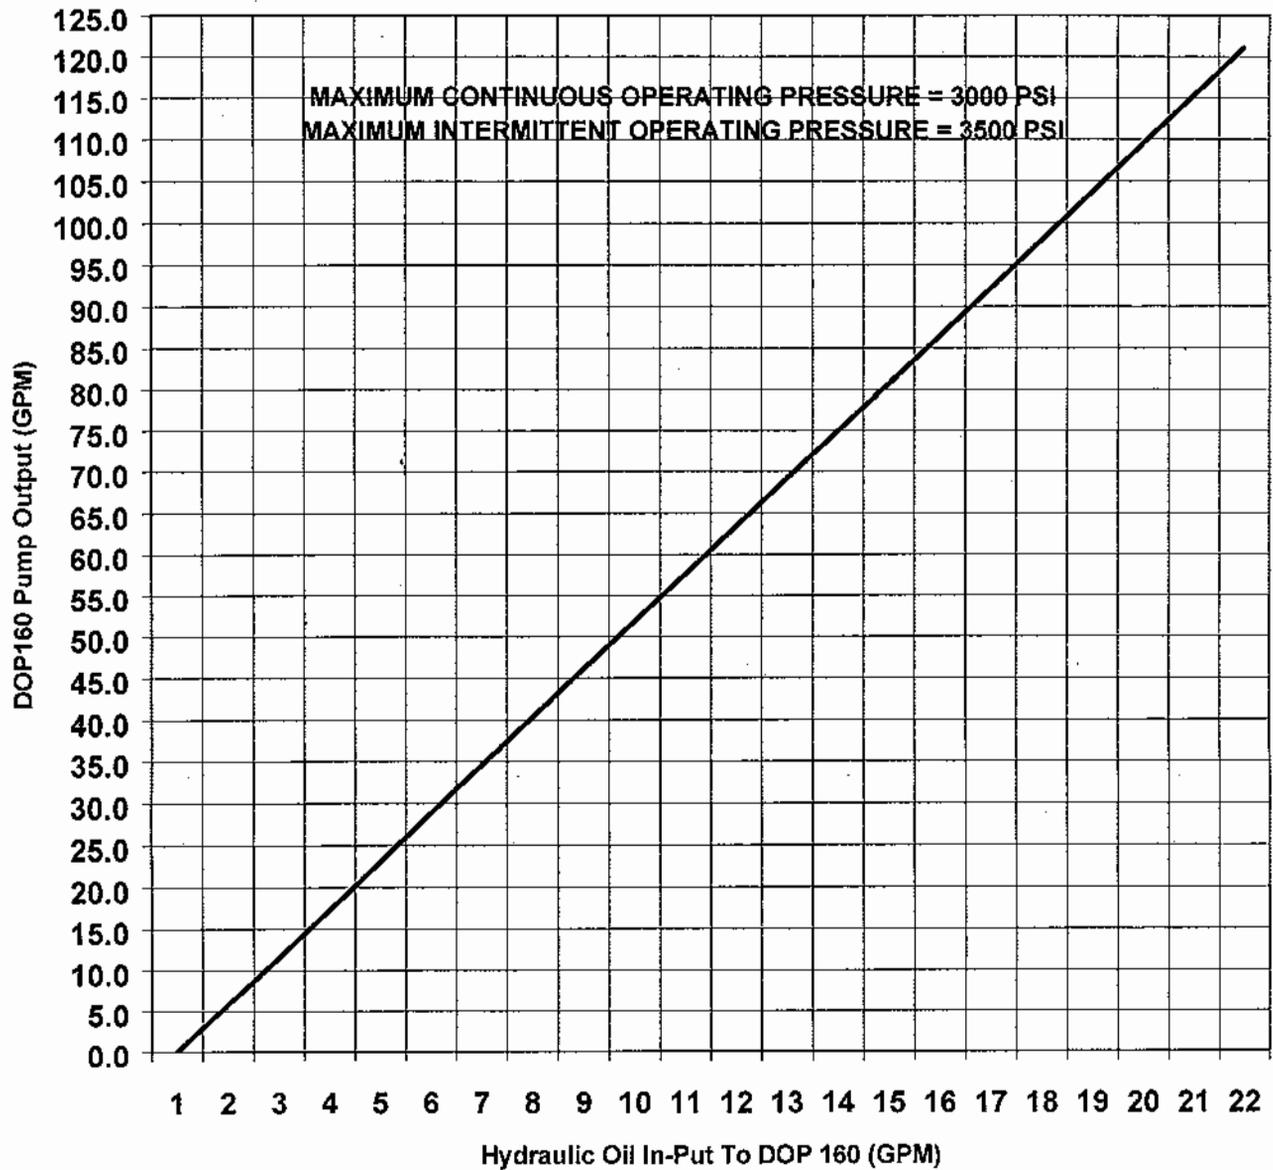

Figure D-4. DESMI DOP160 Hydraulic Oil Input to Product Oil Out put ratio.
- Figure D-4 DOP160 Hydraulic Input to Product Output